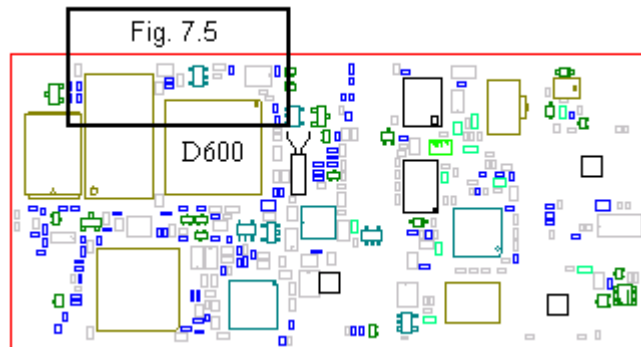

Fig. 7.3
- * If the solderings are correct, replace D600 (class B, fig. 7.3).